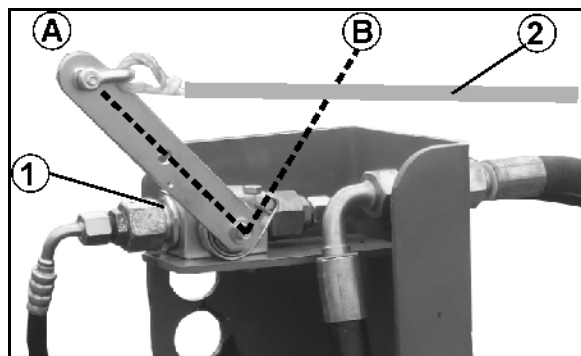

Fig. 11
- Stop valve (Fig. 11/1) to prevent activating an unintentional unfolding action from the tractor via the cable winch (Fig. 11/2).